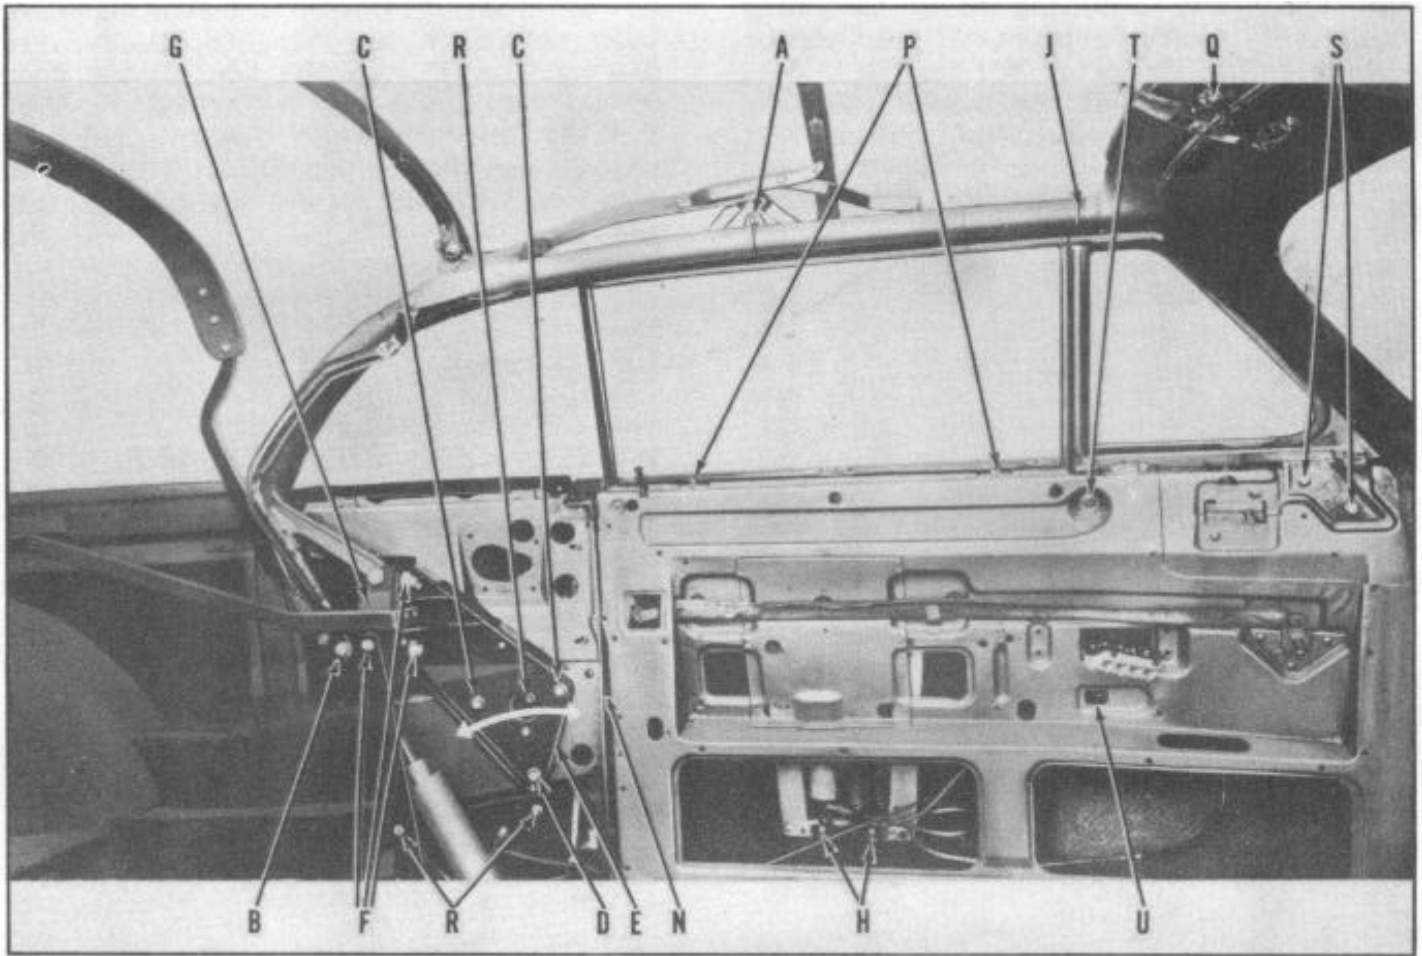

FIGURE 138
3. Back out the side rail adjusting screw at A, Figures 138 and 139. This screw must not be making contact inside of the side rail hinge when starting a major top adjustment.
4. Loosen anchor bolt attaching top balance link to top pivot bracket at B, Figure 138.
7. Unhook top from windshield header and raise top about 6" from header. Cut two wooden blocks to fit over top of the quarter window and hold side rail 4" off the quarter window (highest point with window raised). Locate blocks on quarter windows and allow side rails (weatherstrip removed) to rest on the blocks. With the blocks in position, the balance link anchor bolt is correctly positioned in the slotted hole of the top pivot bracket. Tighten bolt (B) securely. Remove adjusting blocks and again clamp the top to the windshield header. Raise door windows to the closed position.
8. If, after these adjustments have been carefully made, the top side rails are not level with the top of the door window, adjust screw at A, Figure 138. Turning the screw in lowers the side rails; turning the screw out raises the side rails. Re-tighten jam nut on adjusting screw.
9. The top side rail front corner bracket, (J), Figures 138 and 141, is pre-adjusted at the factory with three bolts set midway in the adjustment slots.
10. The top hold-down clamps (Q), Figures 138 and 142, are attached with a serrated mounting plate to allow suitable spring tension adjustment and top front header sealing.
1. Loosen screws (R) Figure 138, to obtain the proper forward adjustment.
1. Remove two screws (S) Figure 138, attaching the wing cradle to inner panel.
2. Loosen screw (T) attaching center glass channel to upper edge of inner panel and remove screw (U) attaching lower end of center channel to inner panel.
3. To tilt vent wing inward insert a washer or washers between wing cradle and inner panel at the upper wing cradle attachment screw (S). Install and tighten both screws. (To tilt outward, insert washers at lower attaching screws (S)).
4. Tilting the glass inward moves the bottom of the center glass channel away from the inner panel. Washers should be inserted between the lower end of the channel (U) and the inner panel, to hold channel in position. Retighten screws (T) and (U).